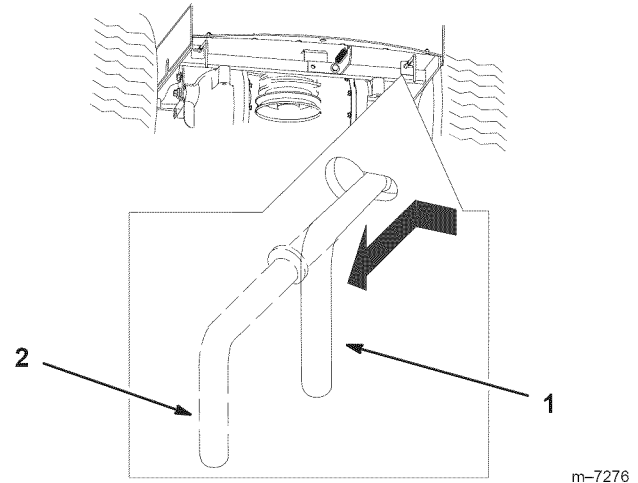

Figure 13
3. Move the two bypass levers to the inside and push them in until the washer on the rod passes through the slot (Fig. 13).
4. Push the levers toward the outside to lock them in place (Fig. 13).
Move each bypass levers to the inside and pull them rearward, completely through the slot (Fig. 13).